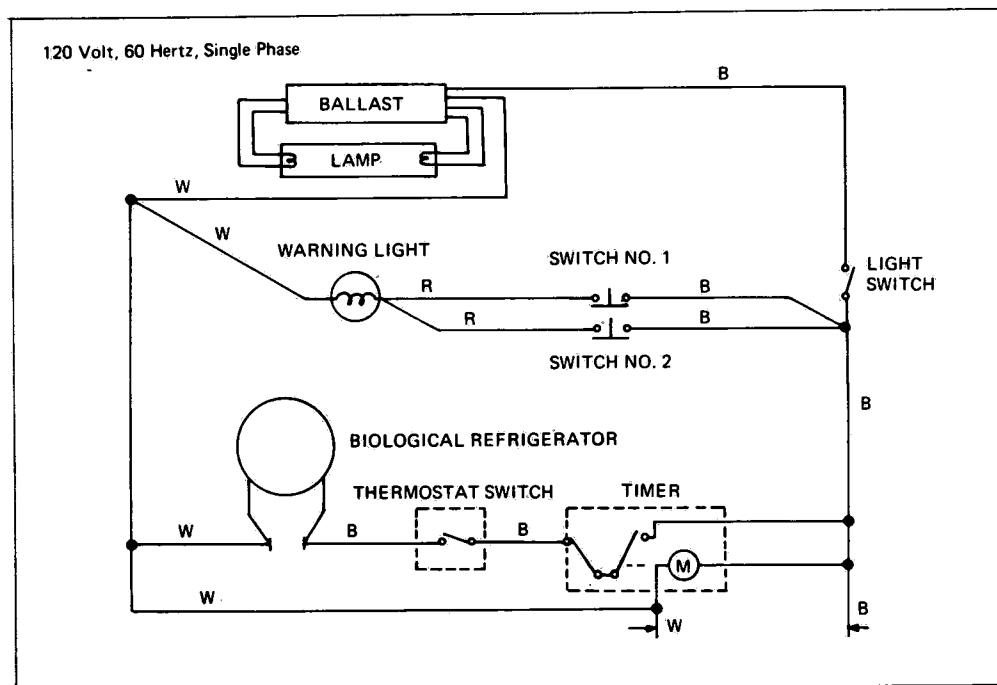

Figure 3-1. ELECTRICAL SCHEMATIC.
3. Use the electrical schematic (Fig. 3-1) to locate and understand system operation.